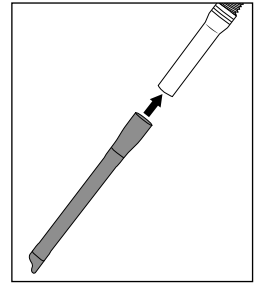

Fig. 11
- ◆ Push the crevice tool ㉒ onto the suction hose ⑳, to vacuum areas such as corners or grouting (see fig. 11).